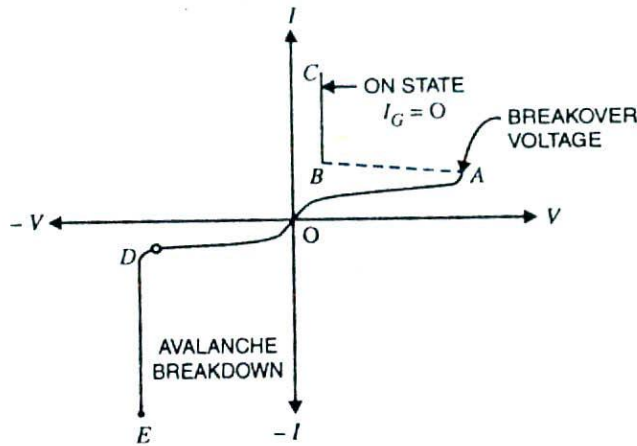

Fig. 22.6
It is the curve between anode-cathode voltage (V) and anode current (I) of an SCR at constant gate current. Fig. 22.6 shows the V - I characteristics of a typical SCR.
(i) **Forward characteristics.** When anode is positive w.r.t. cathode, the curve between V and I is called the forward characteristic. In Fig. 22.6, $OABC$ is the forward characteristic of SCR at $I_G = 0$. If the supply voltage is increased from zero, a point is reached (point A) when the SCR starts